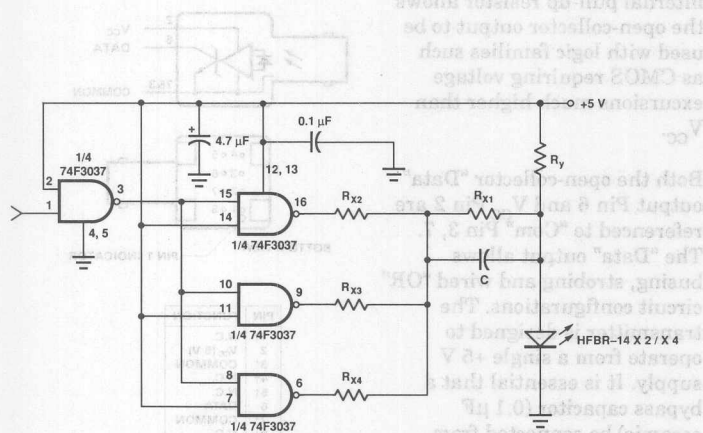

Figure 11. Recommended Drive Circuit.
- Pre-bias is recommended if signal rate  $> 10$  MBd, see recommended drive circuit in Figure 11.
The LED drive circuit shown in Figure 11 uses current-peaking